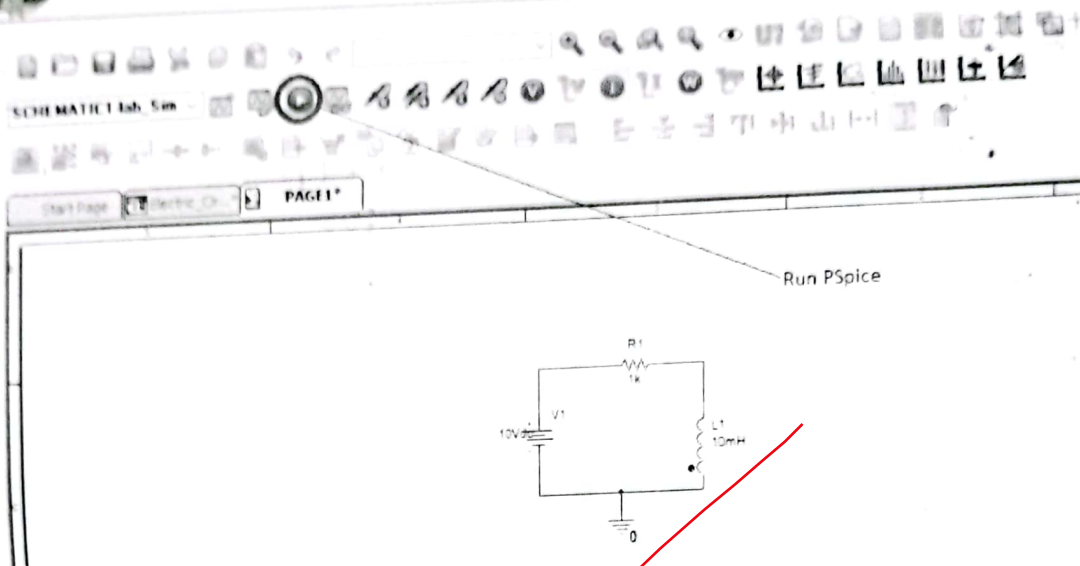

Figure 1.9: Run button
1. Figure 1.9 shows the schematic for a simple RC circuit. Construct this circuit on PSpice and simulate. Note the Capacitor Voltage in Table 1.3